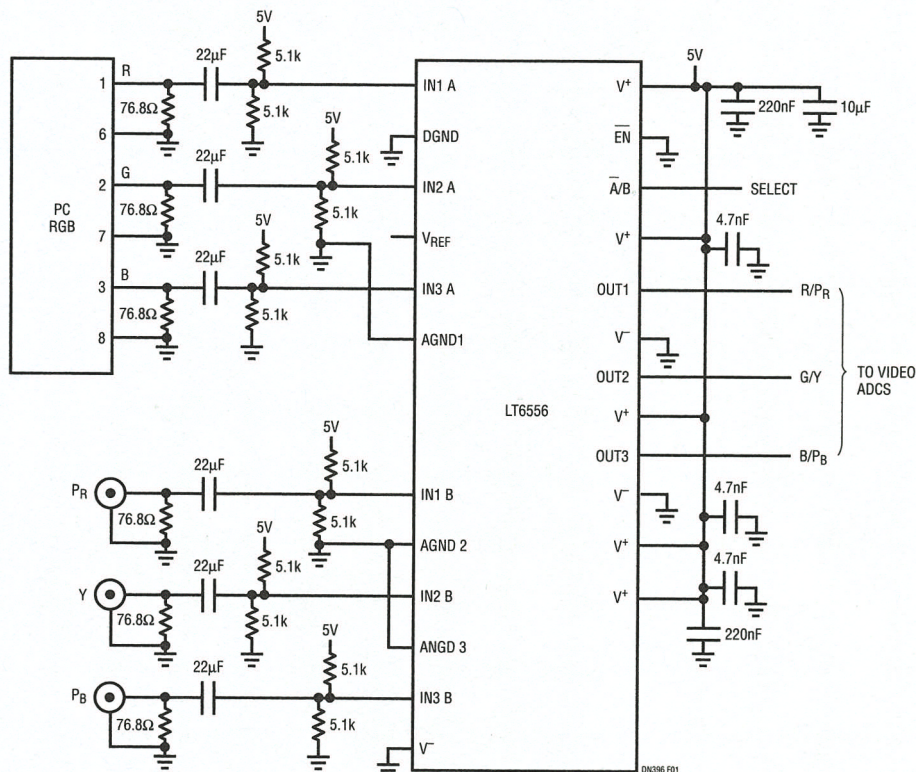

Figure 1. LT6556 Provides Input Video Selector and ADC Driver for Multimedia Display System
Test compression builds on technology originally developed for LBIST (logic built-in self-test). **Figure 1** shows the general structure of compression logic within a chip or core. The system decompresses a compressed input stream and feeds it into the internal scan chains, some of which may be inside cores within the design. The system optionally feeds the output from the internal scan chains through masking logic and then compresses it into an output stream. Engineers can use several architectures for the input decompressor and the output compressor.
Figure 1 In a general-compression structure, engineers decompress a compressed input stream and feed it into the internal scan chains, some of which may be inside cores within the design.
1.5V_{P-P} worst-case when AC-coupled) and the required gain is unity for digitizing by an analog-to-digital converter set (ADC) or other signal routing. This input selection function is readily implemented with the LT6556 on 5V as shown in Figure 1, supporting all video resolutions including UXGA by virtue of its 750MHz bandwidth and 6.5ns settling time. The part is available in either SSOP-24 or QFN-24 packaging and includes layout-friendly flow through pinouts. For the AC-coupling shown, the outputs swing approximately $\pm 0.7V$ about the mid-supply level, within an available range of 2.6V_{P-P}. Though not explicitly shown in Figure 1, coupling to the ADC inputs usually involves series resistances to reduce capacitive loading of the amplifiers to preserve the smoothest frequency response and optimal settling.